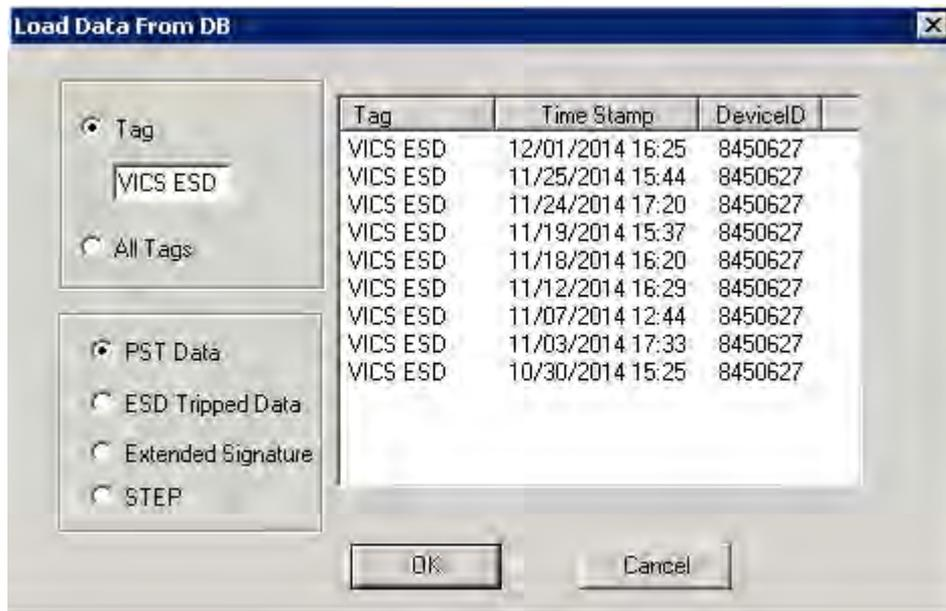

**Figure 227** Selecting Load From DB
1. Click **Load From DB** (Figure 227).